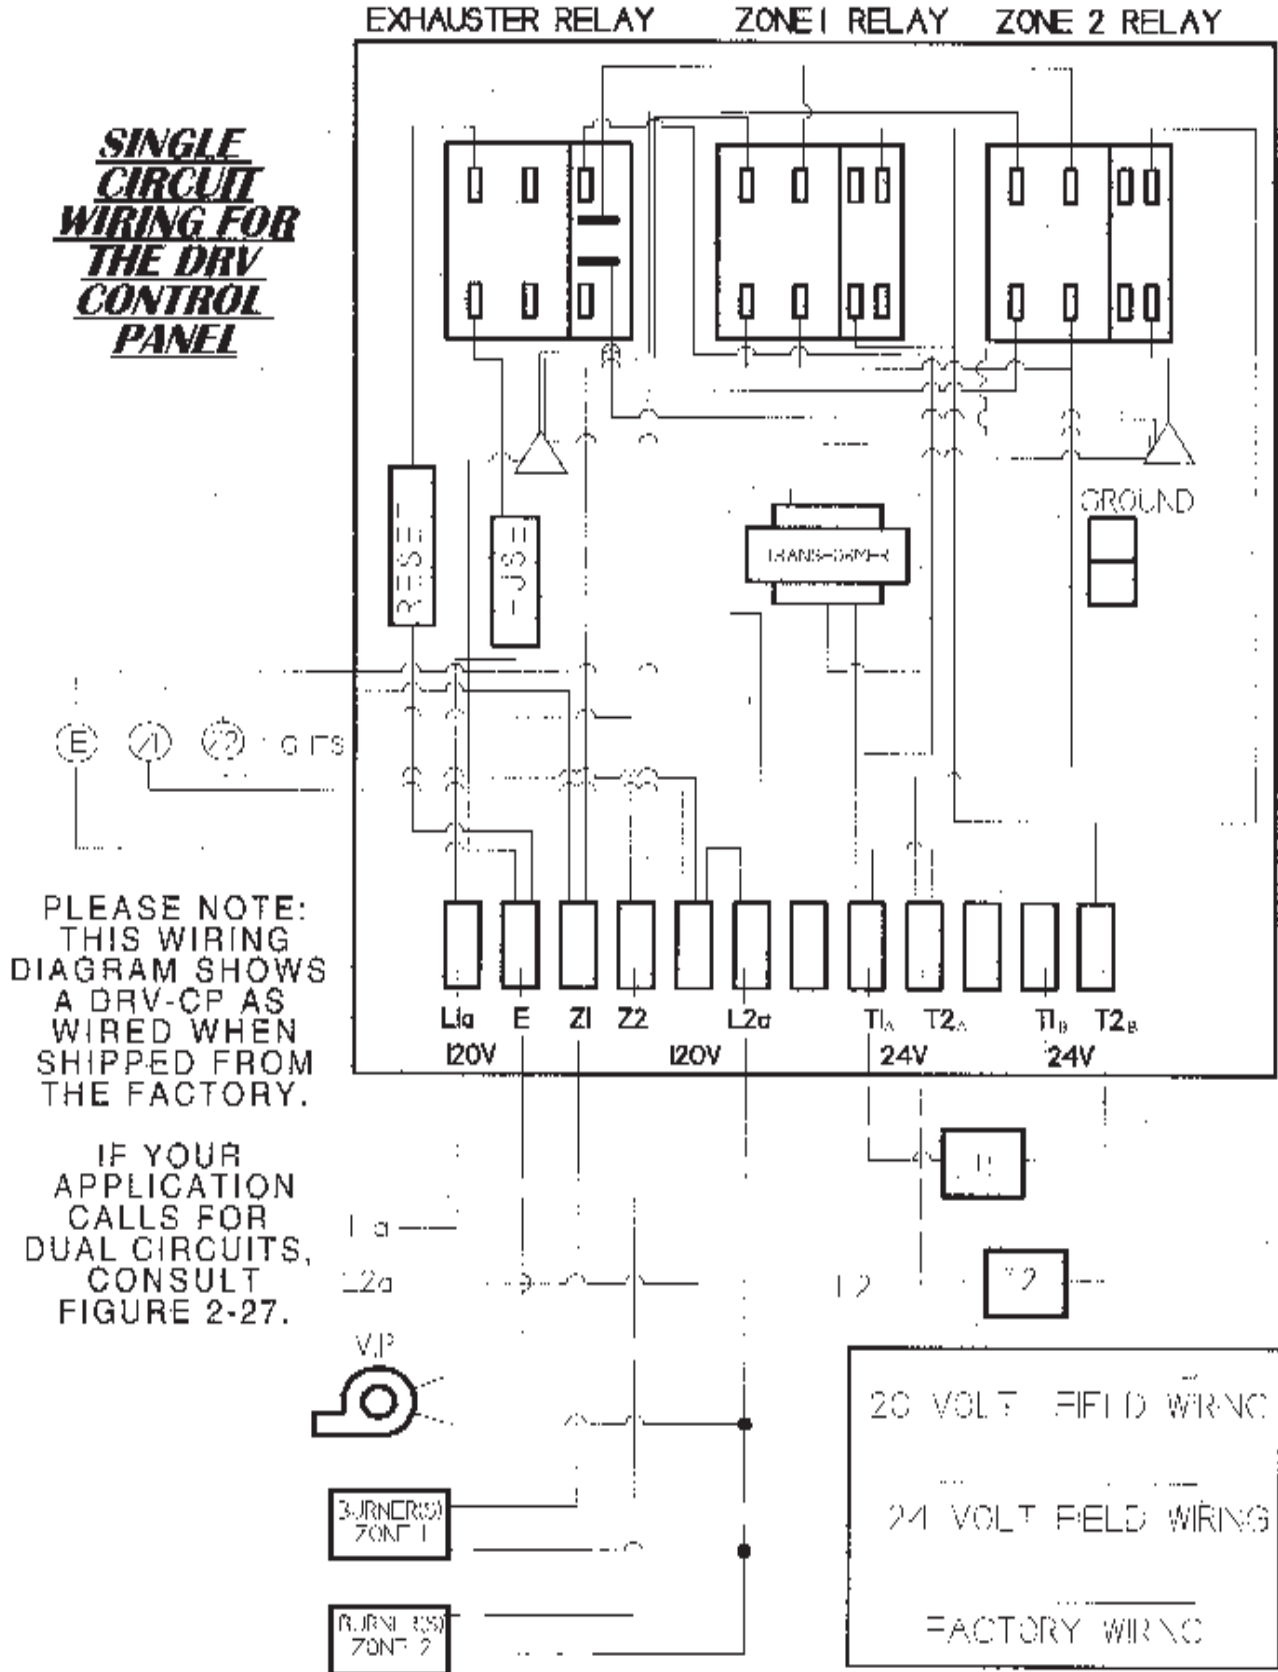

Figure 2.26
4. Figure 2.26 (following page) illustrates the factory wired DRV-CP, which assumes a single circuit requirement. A single circuit is sufficient when the total starting amperages of the burner control boxes in addition to the running amperage of the pump, does not exceed the capacity of the circuit (see chart 2).